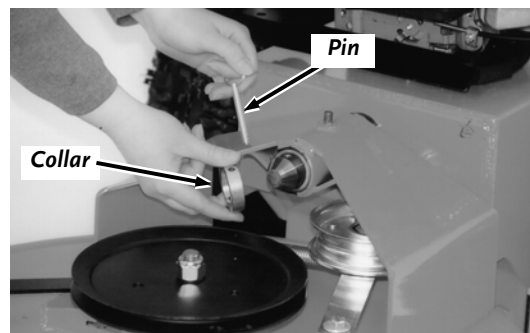

Figure 34
4. Remove the Pin and Collar (**Figure 34**), and then pull the Power Unit away from the Deck.